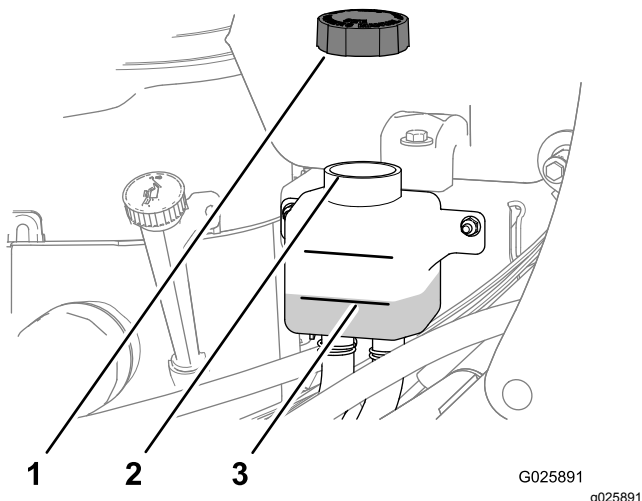

Figure 3
6. Remove the cap and check the transmission-fluid level in the expansion tank (Figure 3).
The parking-brake handle is located on the control console, to the right of the key switch (Figure 3).